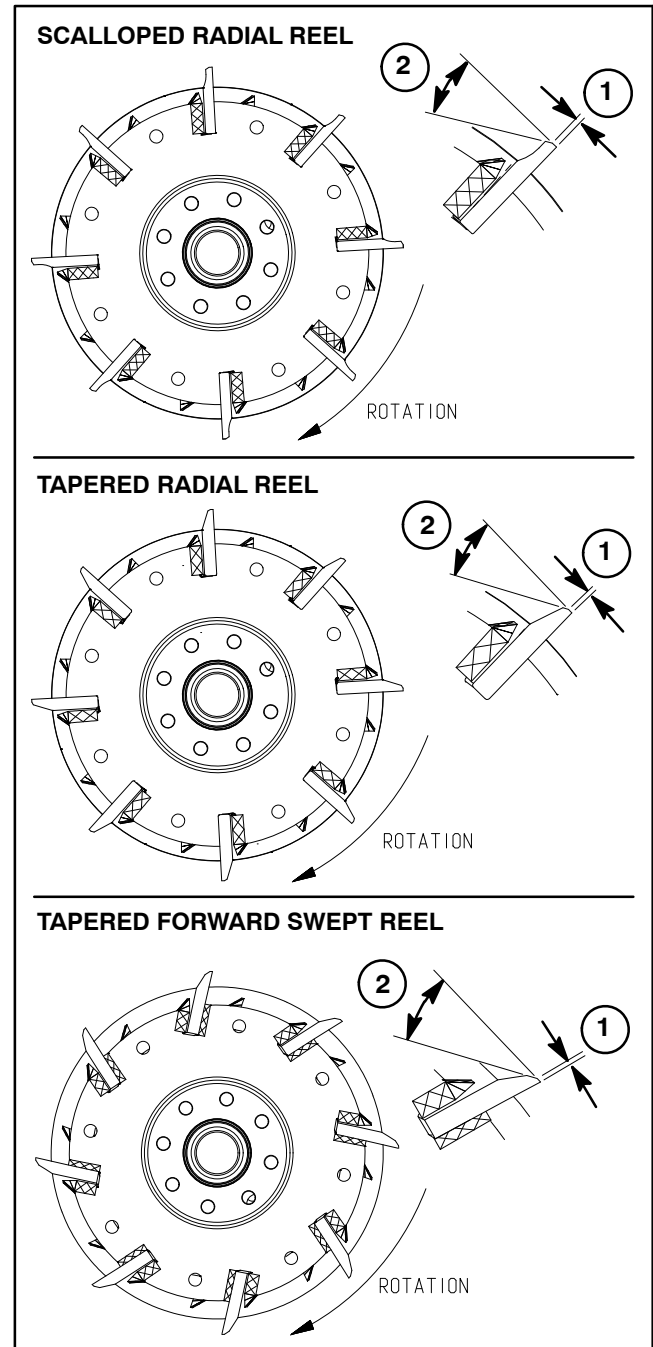

Figure 41
Three (3) types of reel designs are used in Reelmaster cutting units: scalloped radial reel, tapered radial reel and tapered forward swept reel (Fig. 41). The radial reel designs have blades that are placed in line with the center of the reel shaft. The rear of the blades either have a scalloped relief or a tapered relief. The forward swept reel have blades that have a slight forward slant. The rear of the forward swept reel blades have a tapered relief. Before grinding a reel, identify the type of reel design to make sure that grinding is correctly done.